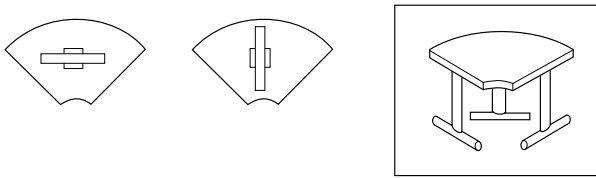

Figure 5 - Adding a Third Leg
- 90° crescent work surfaces have provision for an optional third center leg for additional stability when heavy loads are applied to the outside edge. They can also be used as freestanding tables when a third leg is added (**Figure 5**).